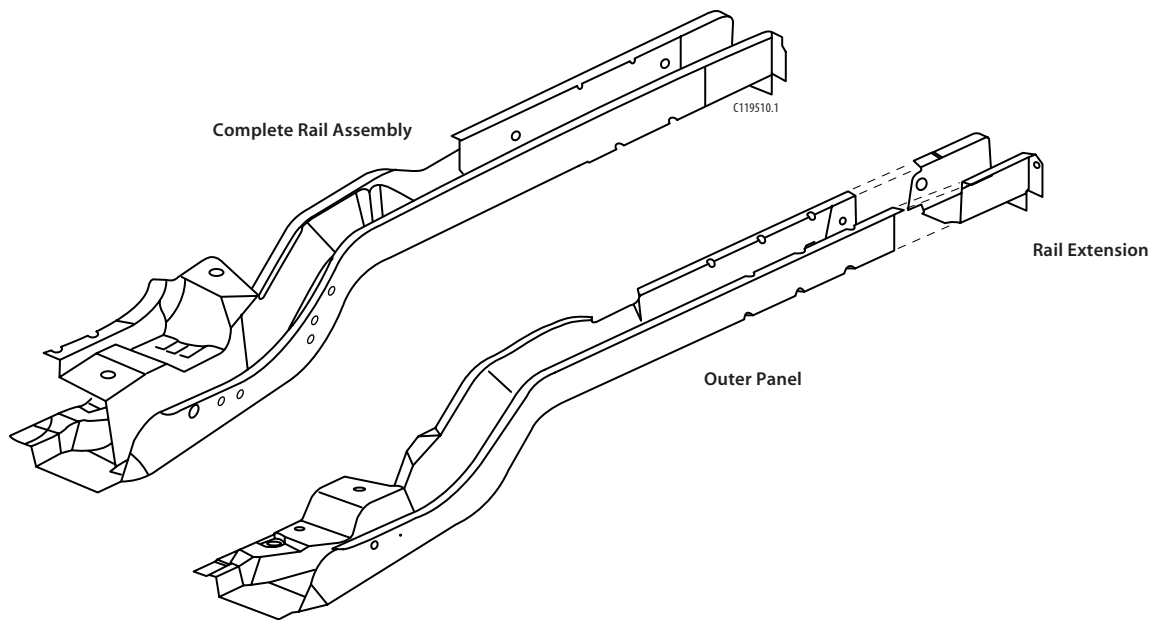

Figure 10-1:
The rear rail is available as a complete assembly. It consists of an outer panel, two inner reinforcements, a rail extension, and all necessary component mounting brackets (figure 10-1). The outer panel and rear mounting brackets are also available separately to facilitate sectioning. Additionally, there is a crossbar that connects the two rear rails for added strength and rigidity.
1. Using the original part as a guide, mark a line on the service rail 35mm ($1\frac{5}{16}$ inch) forward of the cut made to the original part (this should be approximately 535mm (21 inches) without the extension attached to the rail). This will provide an overlap for welding the service section (see figure 10-1).